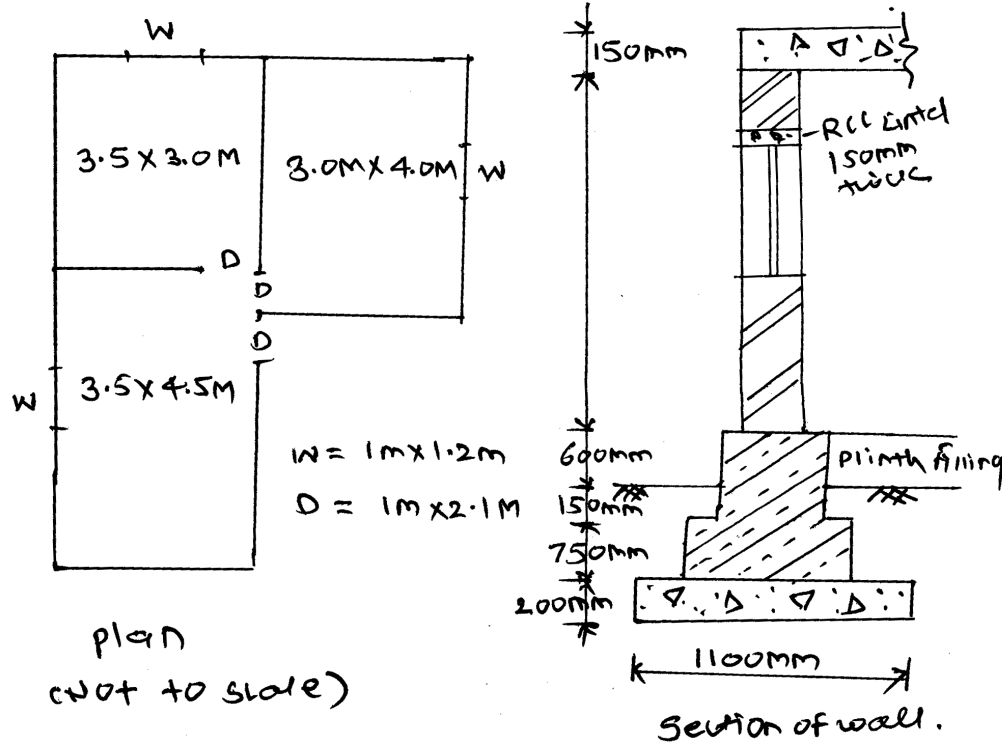

Fig. No. 1
- a) Calculate the quantity of excavation and P.C.C.(1:2:4) for structure shown in Fig. No. 1
- b) Calculate the quantity of internal plaster in cm 1:4 for structure shown in refer fig. No. 1.